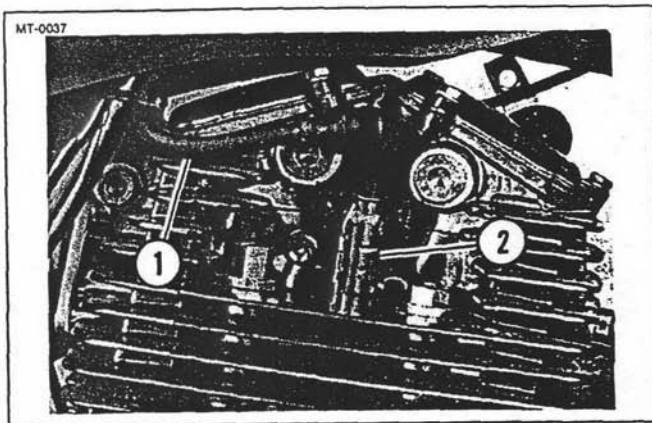

Figure 4-5. Spark Plug Cable and Protector
- Step 4. See Figure 4-5. Check spark plug cable (1) to be sure that it is connected securely to spark plug protector (2).